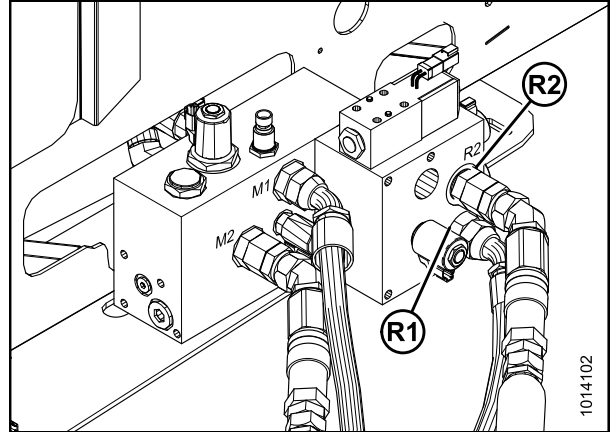

Figure 3.46: M200 Windrower Hose Connections with Reverser
If the windrower is equipped with a reverser valve for an auger header, replace the 90° fitting on hose (D) with a 45° fitting. Refer to Figure 3.46: *M200 Windrower Hose Connections with Reverser*, page 49.